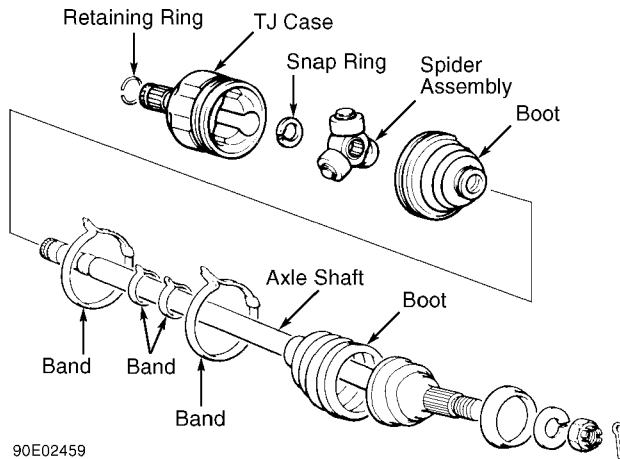

Fig. 3: Exploded View of TJ Assembly
1) Note type of boot and location prior to removal. See BAND & BOOT APPLICATION. Remove bands and boot from TJ housing. See Fig. 3. Place reference mark on TJ case and spider assembly. Pull axle shaft